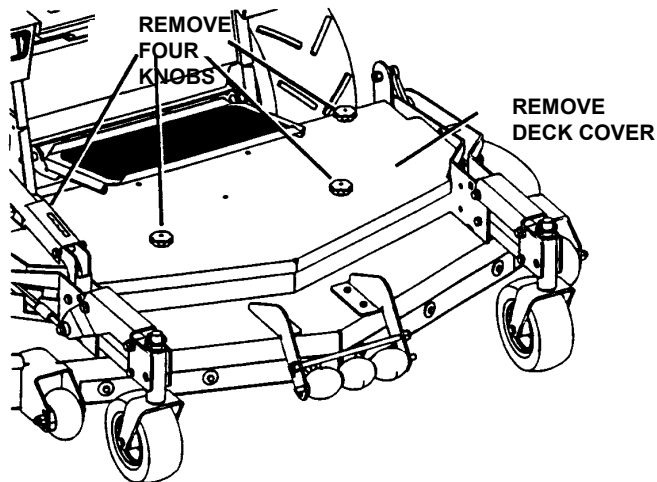

FIGURE 4.3
- Remove knobs that secure the deck cover. See Figure 4.3.